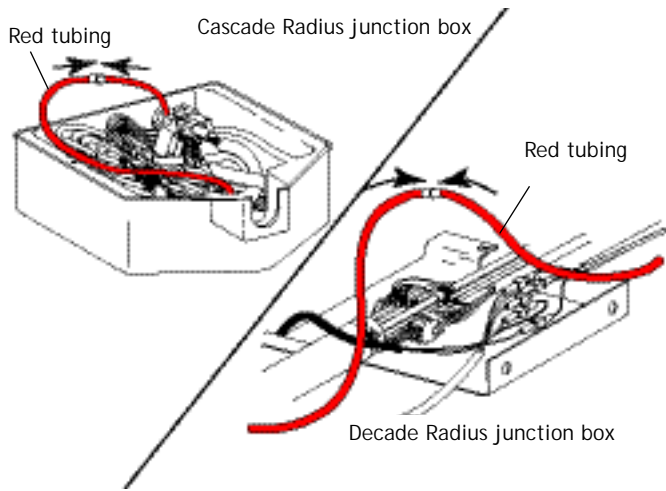

Figure 12
2. Connect the red tubing (1/8" OD) to the matching red tubing in the junction box using an in-line barb and uni-clamps (see Figure 12)